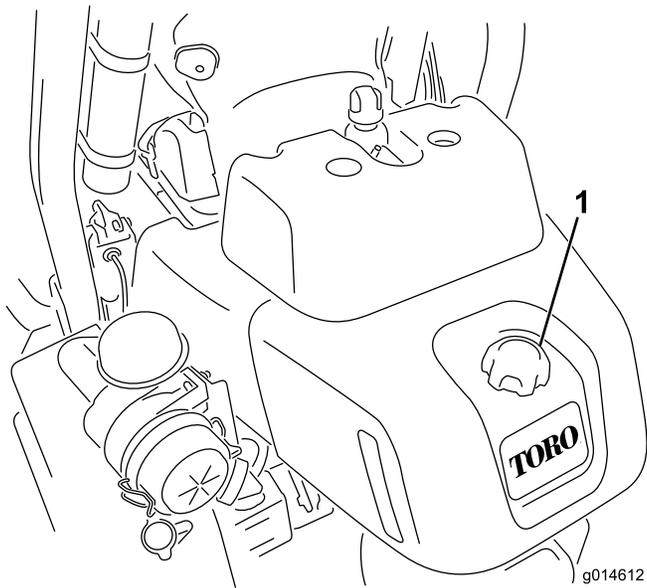

Figure 29
1. Clean around the fuel tank cap (Figure 29).